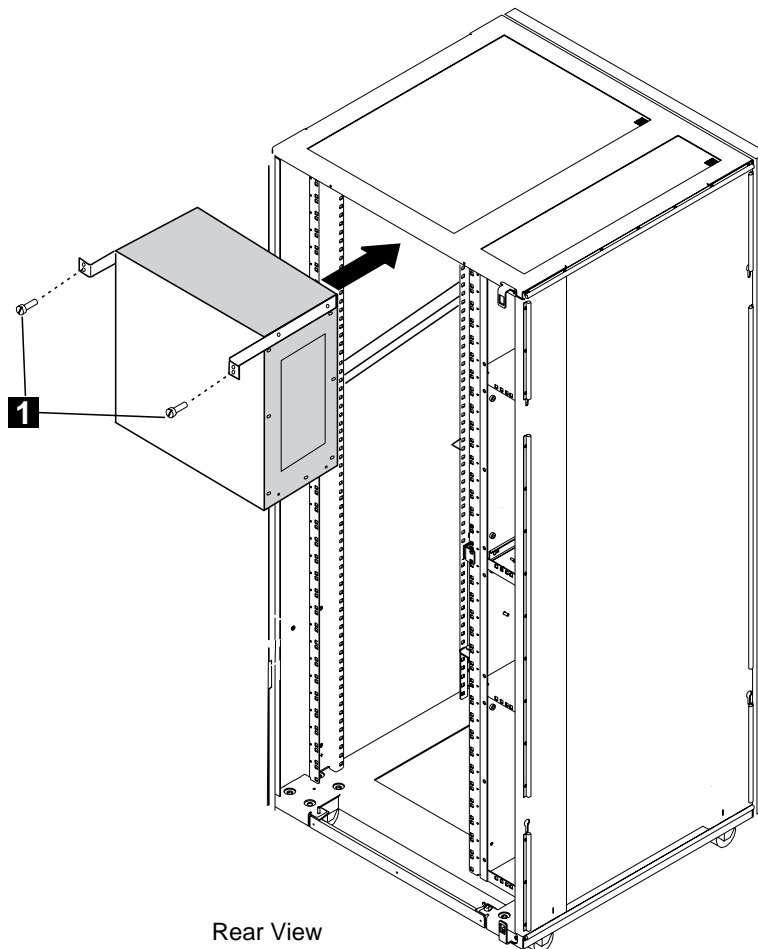

Figure 1-6. Installing MAE in the Controller Expansion
7. \_\_\_\_ At the back of the controller expansion (with the help of a second CE), **set** the MAE on the brackets and fasten the MAE using two screws **1** (PN 1621230) as shown on Figure 1-6.